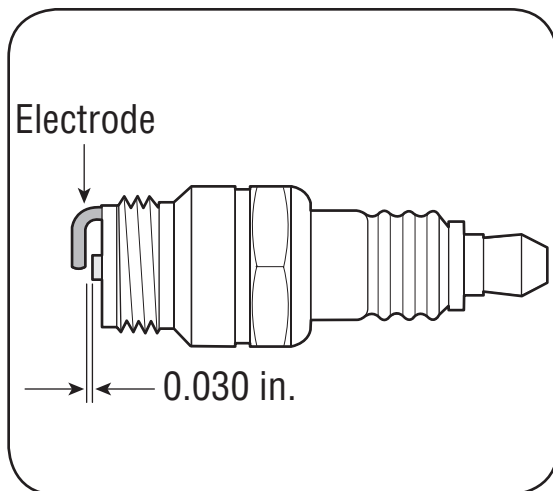

Figure 10-4: Measure the plug gap with a feeler gauge.
3. Measure the plug gap with a feeler gauge. Correct as necessary by bending side electrode. See Figure 10-4. The gap should be set to 0.030 in.